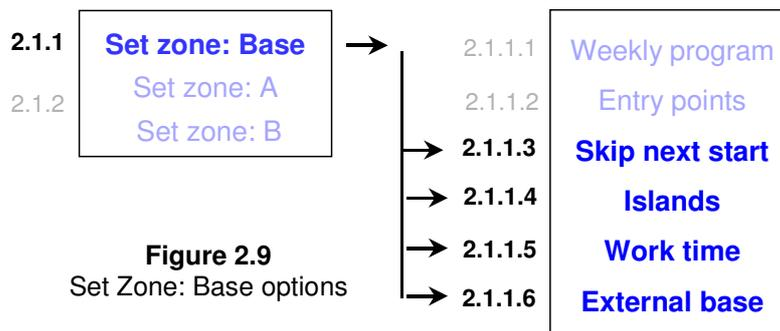

Figure 2.9
The ‘**Skip next start**’ option allows user to skip the next scheduled operation (figure 2.9).
2. Under ‘**Set Zone: Base**’ menu scroll to ‘**Skip next start**’ option and press ‘**GO**’ to set the option (see figure 2.9).
Setting this option to ‘**off**’ allows the mower to acquire the Perimeter Wire immediately as starting to search for the Base Station with no need to converge to the end of the lawn (figure 2.9).